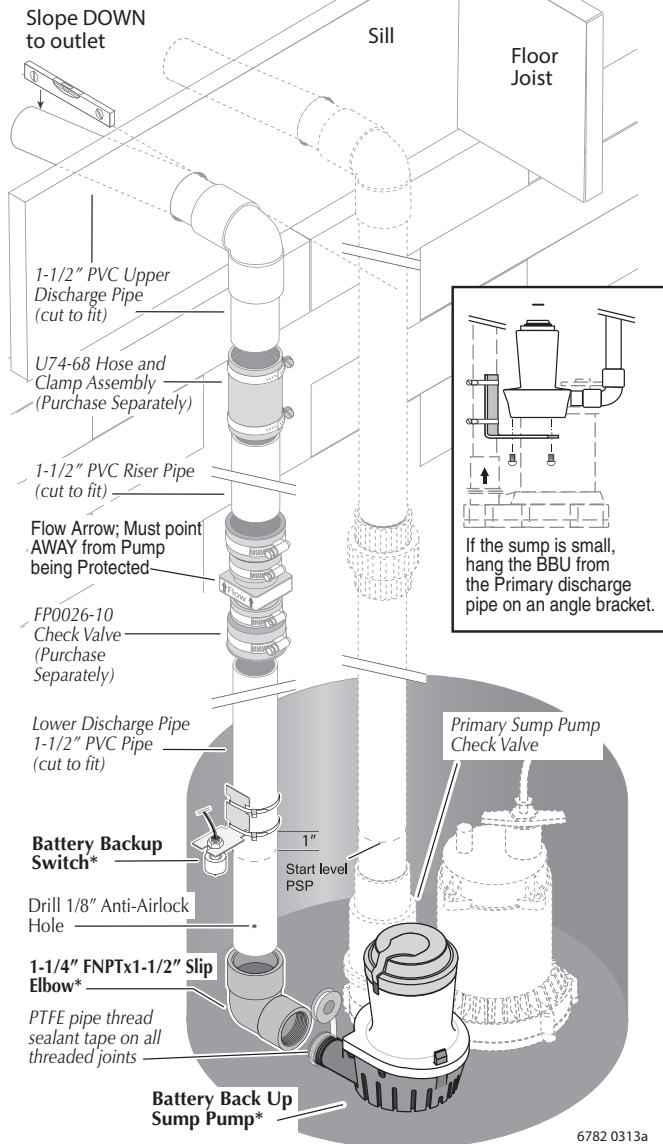

Figure 2: Typical installation with separate discharge pipes.
NOTICE: Study pages 4-6 to determine which installation method will be best for you. The "Separate Discharge" (Figure 2, Page 4), installation is recommended.
3. If the sump is too small to allow both pumps to sit on the bottom of the sump, install an angle bracket on the primary sump pump's discharge pipe with stainless steel hose clamps. Mount the backup pump on the angle bracket. See Figure 2, "Separate Discharge".
4. Cut a piece of 1-1/2" PVC pipe to reach from the backup pump discharge elbow to about one (1) foot above the basement floor. This is the lower discharge pipe.